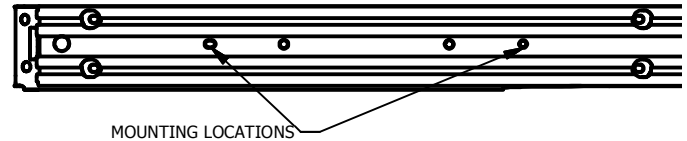

Figure 1.
- A. Place bracket 3PBK4714-06 behind the impact member aligning the slot with the hole located on the drivers side of the impact member. See figure 1&2.